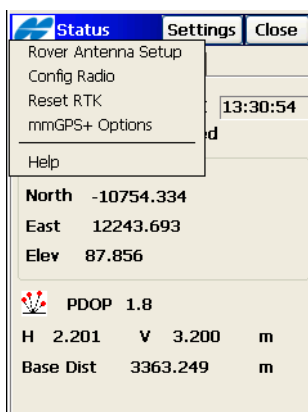

Figure A-22. mmGPS+ Options
1. On the *Status* screen (**SRV ▶ Status**), tap the **bitmap menu** in the upper-left corner of the screen, and select **mmGPS+ Options** (Figure A-22). The *mmGPS+ Opts* screen displays.